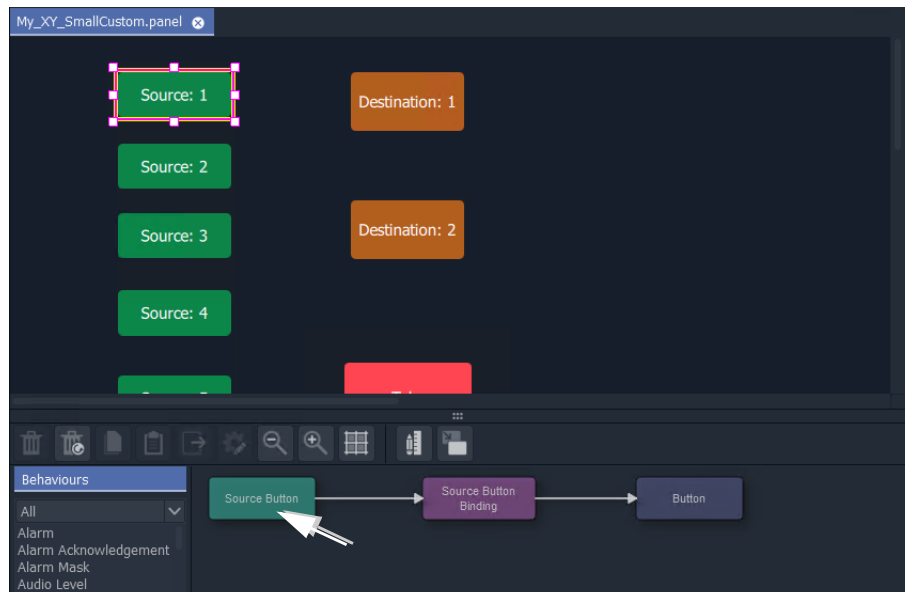

Fig. 12-45: Double-click on 'Source Button' Behaviour
- 2 Select a Source button in the XY Panel and double-click on the 'Source Button' Behaviour in the editor. See Figure 12-45.